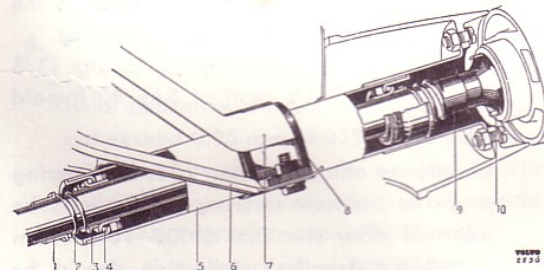

Fig. 42. Steering column bearings, late production, P 120.
- Check that the rubber bushes for the jacket tube attachments are undamaged. Then fit the jacket tube and other parts in the reverse order to removing and as shown in Fig. 42 in the case of late production. The bushes on the early production type should be smeared with a thin coating of ball bearing grease. Tighten the steering wheel nut to a torque of 3.5–5.0 kgm (25–35 lb.ft.) and do not forget to lock it.